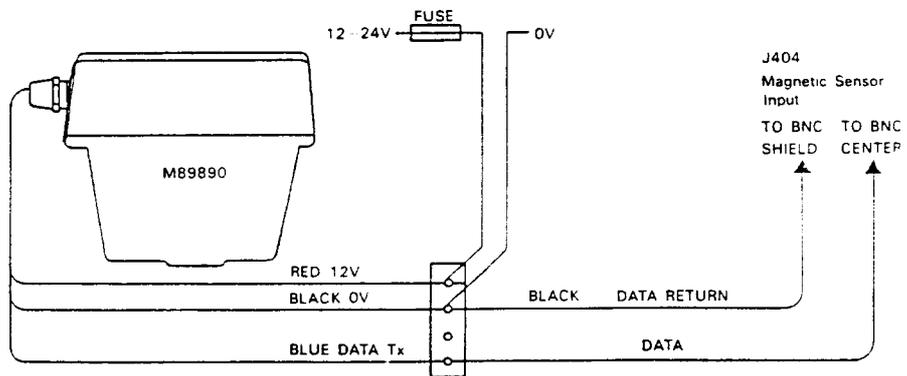

FIG. 2-14 GENERAL MAGNETIC FLUX SENSOR WIRING
6. Even though the sensor is internally fused, it is advisable to connect the system through a fused supply. It may be wired either from an existing switch panel or separately. Always connect via the junction box. As the current drain is low, the compass can be left on with very little battery drain. Wiring details are provided in Fig. 2-14.